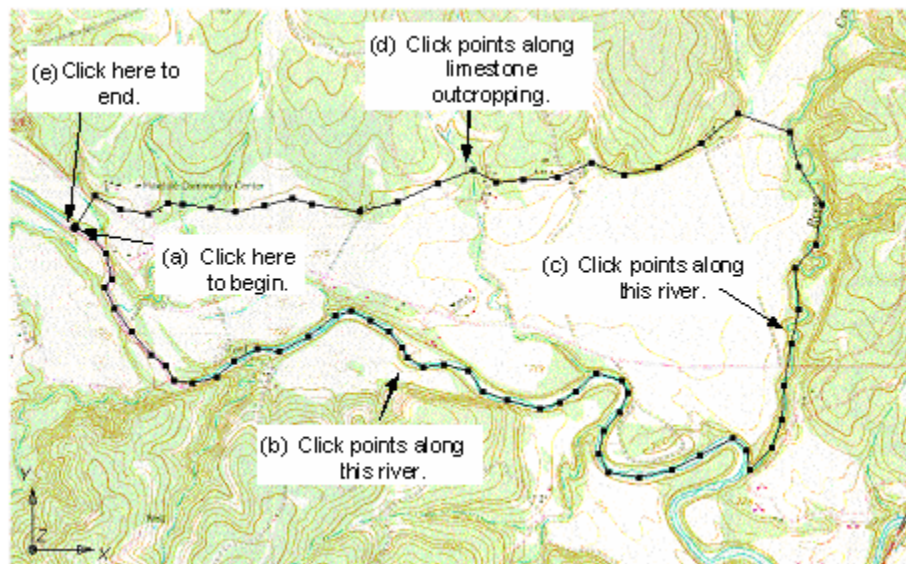

Figure 2. Creating the Boundary Arc.
2. Begin the arc by clicking once on the left (west) side of the model at the location shown in Figure 2.
3. Create the arc by proceeding around the boundary of the site in a counter-clockwise direction and clicking on a sequence of points around the boundary. Don't worry about the spacing or the exact location of the points; just use enough points to define the approximate location of the boundary. The boundary on the south and east sides of the model should coincide with the rivers. The boundary along the top should coincide to the limestone outcropping as shown in Figure 2.